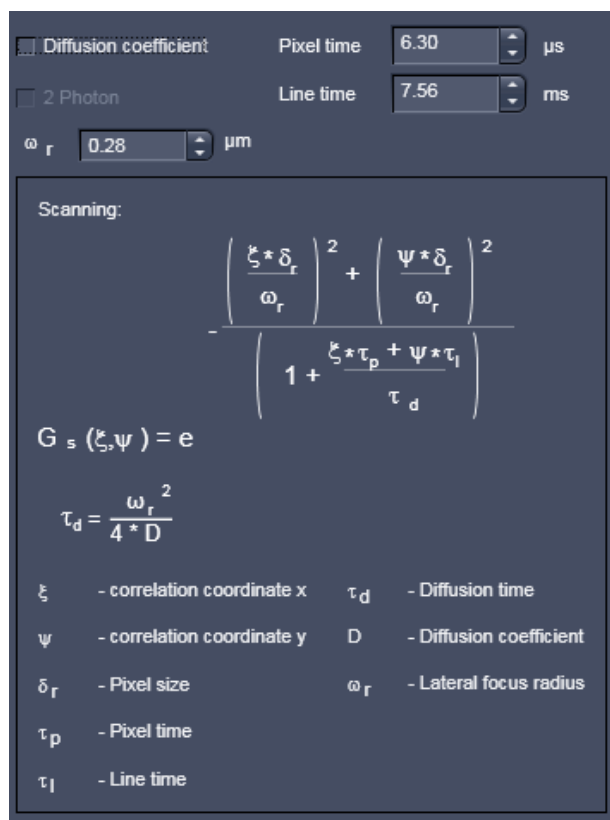

Fig. 740 Settings for the Scanning term
**Scanning  $G_s(\xi, \psi)$**  describes the scanning term of the model function. Scanning is only active in the **Show all** mode. To open the **Scanning** settings press the **Settings** button (Fig. 740).